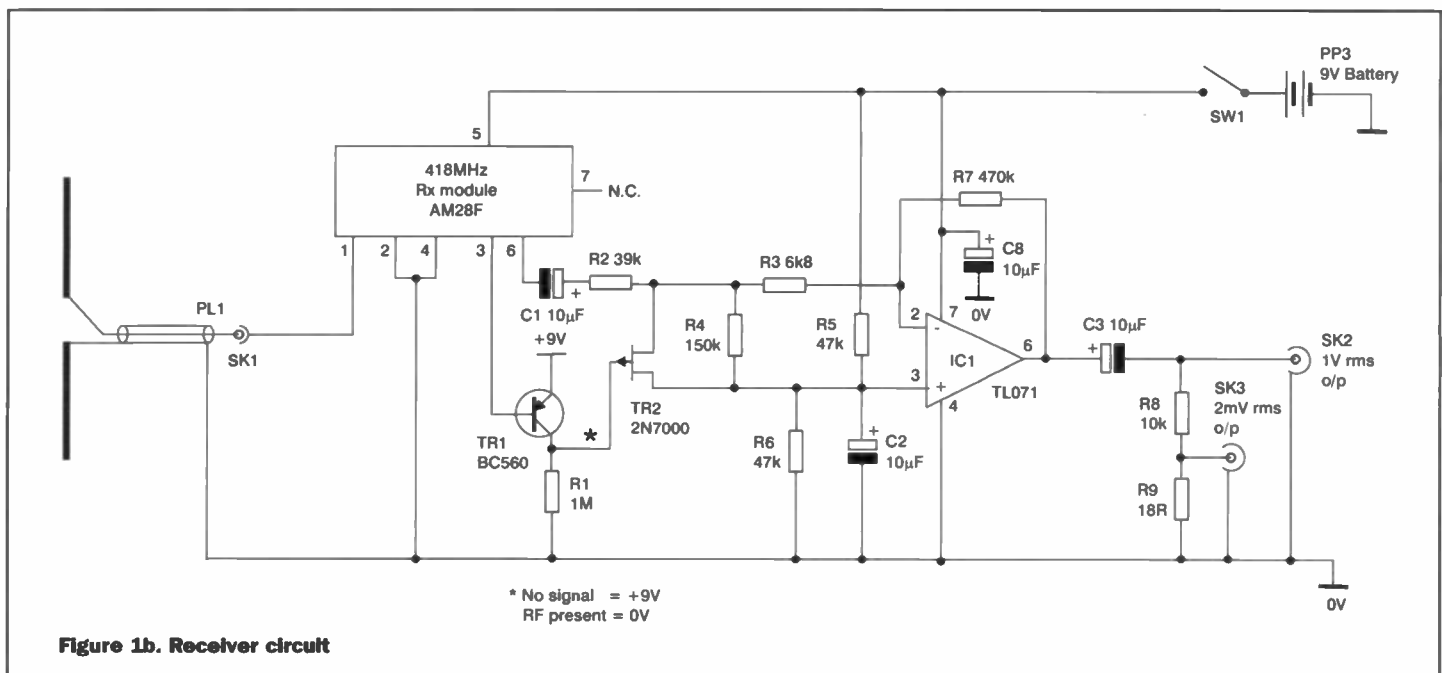

Figure 1b. Receiver circuit
The receiving antenna is connected to SK1, a BNC socket, and then on to pins 1 and 2 of the receiver module - see Figure 1b. The audio output is taken from pin 6 of the module and has a maximum
3. Check the DC voltages in the receiver circuit are as shown in the circuit diagram, Figure 1b. With the transmitter off, there should be no RF signal being received and the collector of TR1 should be at +9V. If it is 0V there is a fault in the receiver PCB.